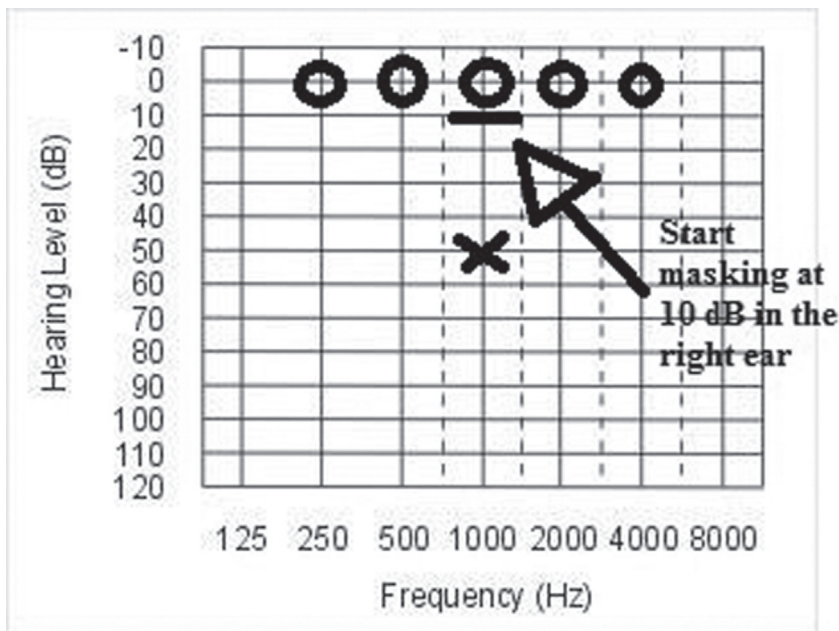

Figure 9-12. Begin the masking level at 10 dB in the nontest ear.
Step 6: How loud should we begin the masking noise in the NTE (Figure 9-12)?